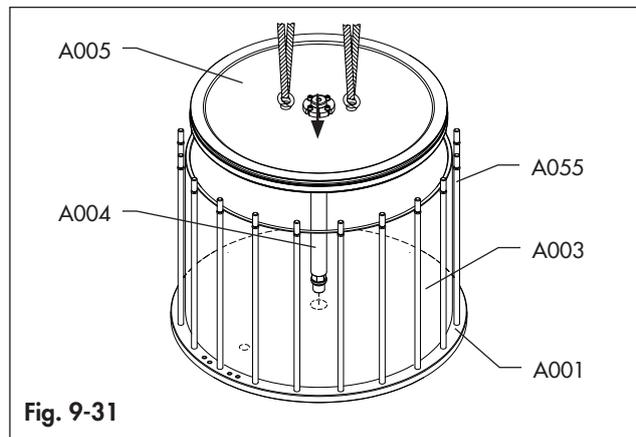

Fig. 9-31
- Lift and place the piston assembly in the cylinder: engage carefully the shaft (A004) into the flange (A001) and the piston (A005) into the cylinder. (Fig. 9-31)